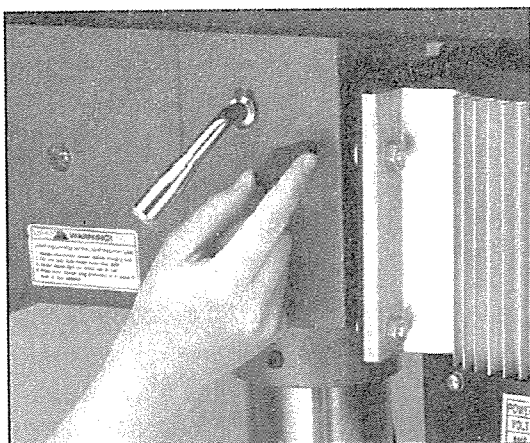

Figure 13
1. Loosen the belt tension lock knobs on both sides of the headstock by turning counterclockwise as shown in **Figure 13**.